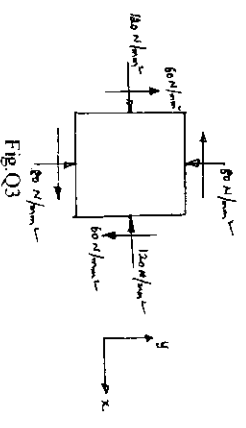

Fig. Q3
- 3 The state of stress in a two dimensionally stressed body is shown in Fig. Q3. Determine the principal planes, principal stresses, maximum shear stress and their planes. Also draw the Mohr's circle to verify the results obtained analytically. Indicate all the above planes by a sketch. (20 Marks)